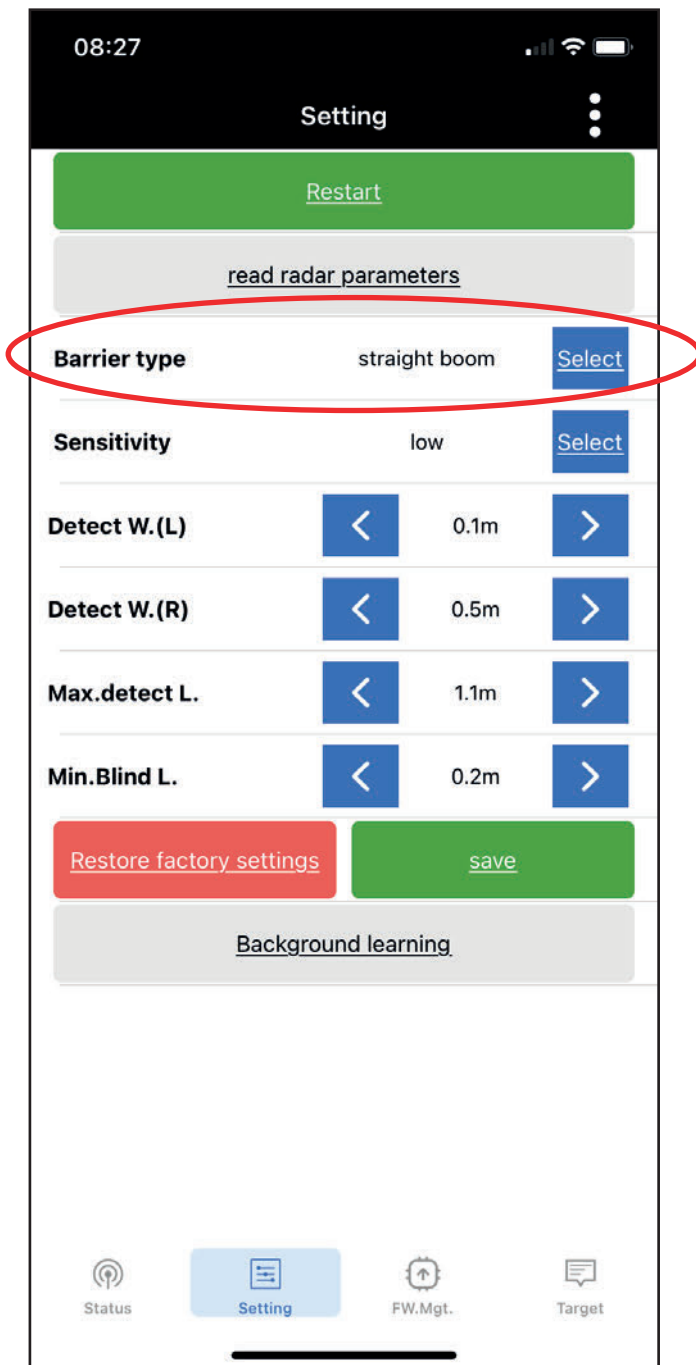

Figure 7
1. Press „Select“ and choose your preferred barrier type an „Confirm“ (Figure 7 & 8)